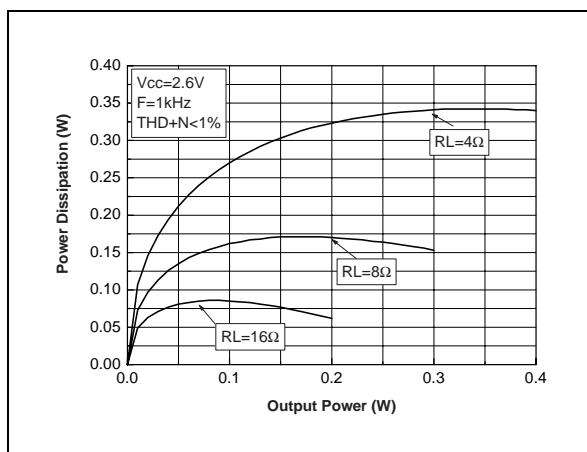

Fig. 20 : Power Derating Curves
1. This thermal resistance can be reduced with a suitable PCB layout (see Power Derating Curves Fig. 20)